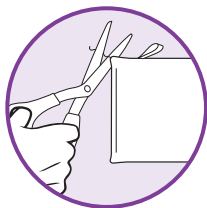

fig.40
- 2 If there are loose threads on the cleaning pocket carefully cut the thread with scissors. Don't pull on them or cut at the base. (fig. 40)